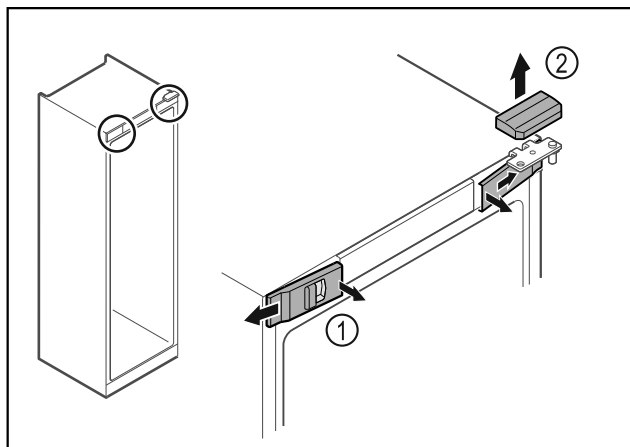

Fig. 16
- Unlatch the front covers Fig. 16 (1) on the inside and remove them sideways.
- Lift off the upper cover Fig. 16 (2).